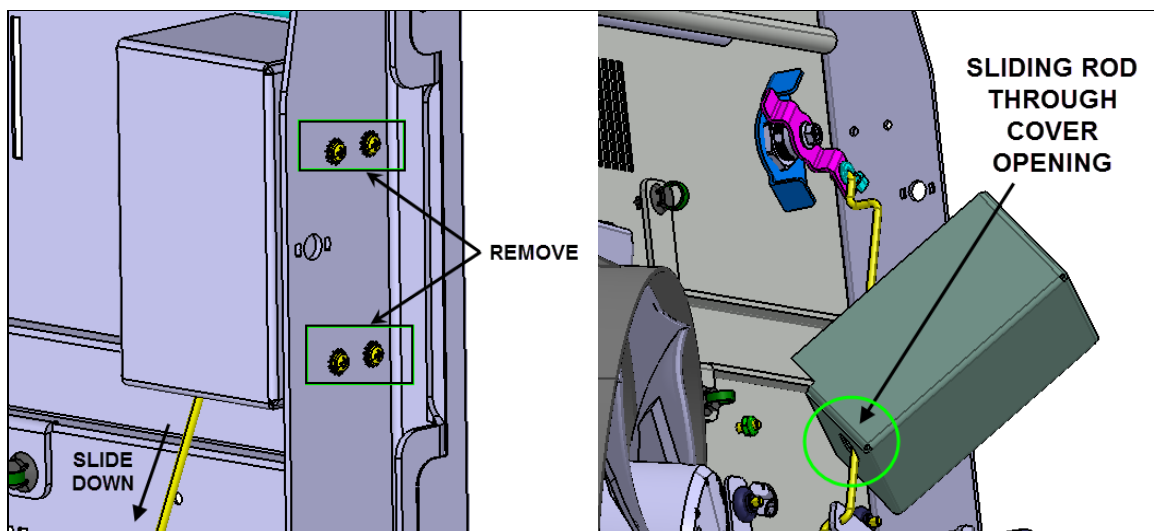

FIG.2 CYLINDER LOCK COVER REMOVAL
2. Remove the four Phillips head screws holding the cover on the side of the door frame and slide the cover down along the rod to move it out of the way (Fig.2).